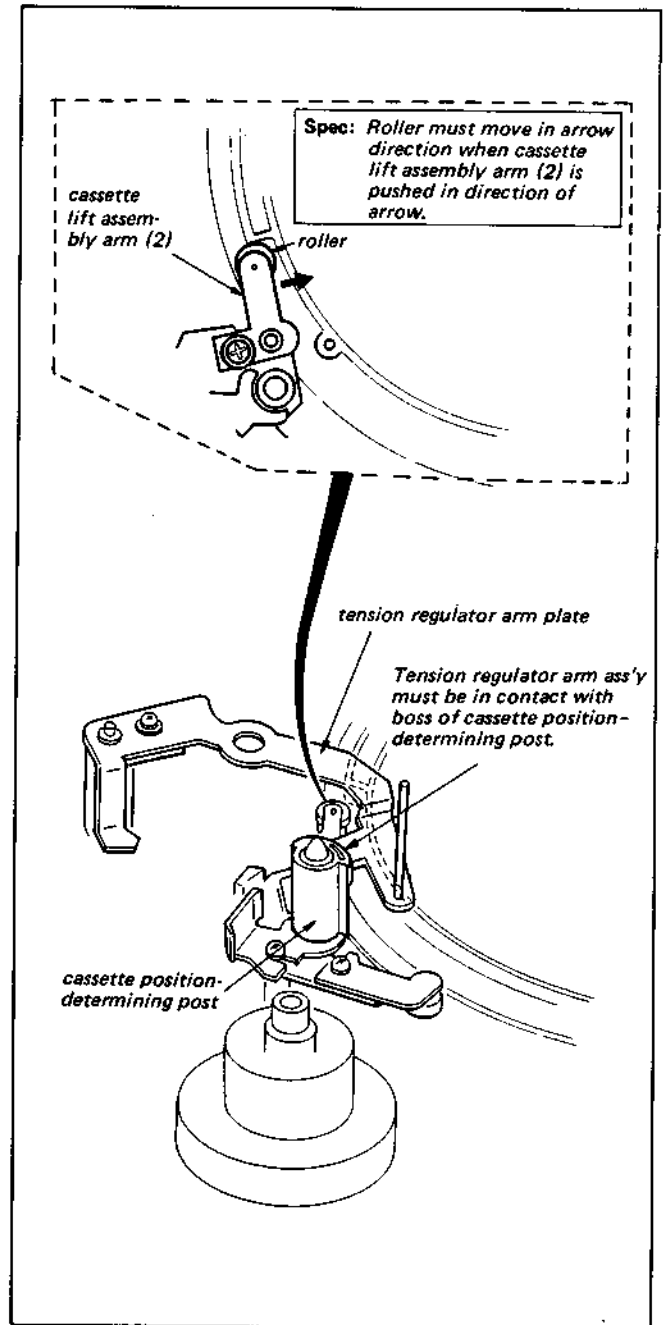

Fig. 3-26. Check of unthreading completion
3. Confirm that the roller of cassette lift assembly arm (2) shown in Fig. 3-26 moves in the arrow direction when the cassette lift assembly arm (2) is pushed in the arrow direction.
4. Confirm that the tension regulator arm assembly is in contact with the boss of the cassette position-determining post. (See Fig. 3-26.)